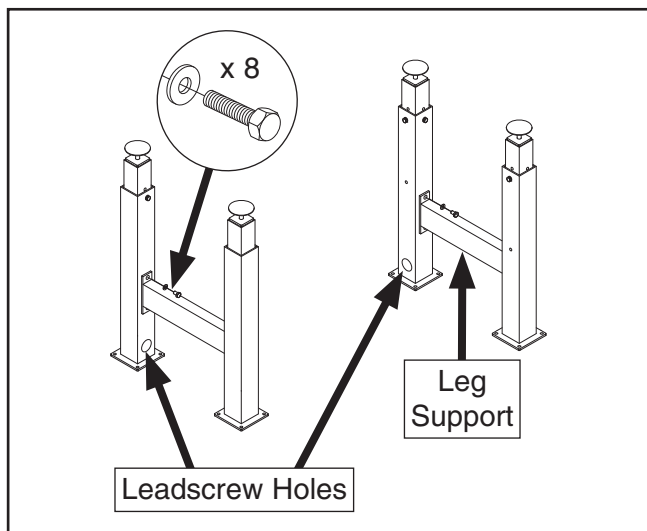

Figure 12. Leg assemblies.
Note: In next step, legs must also be oriented so one leadscrew hole faces to side, and other faces front (see **Figure 12**). This is necessary to properly install vise assemblies in later step.
12. Attach leg supports to leg assemblies with (8) $\frac{5}{16}$ "-18 x $\frac{3}{4}$ " hex bolts and $\frac{5}{16}$ " flat washers, as shown in **Figure 12**.